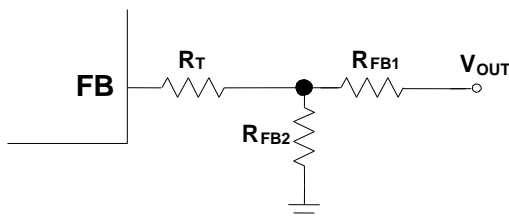

Figure 4: T-Type Feedback Network
The external resistor divider connected to FB sets the output voltage (see Figure 4). The feedback resistor (R₁) also sets the feedback loop bandwidth with the internal compensation capacitor. Choose R_{FB1} to be around 40kΩ when V_{OUT} ≥ 1V. R_{FB2} can then be calculated with Equation (1):
The T-type network is highly recommended when V_{OUT} is low (see Figure 4).